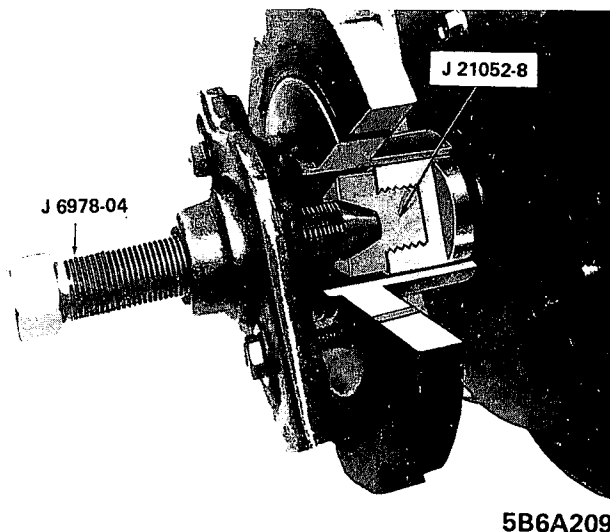

Figure 6A-204 - Removing Harmonic Balancer
3. Using a balancer pulley, remove balancer as shown in Figure 6A-204.